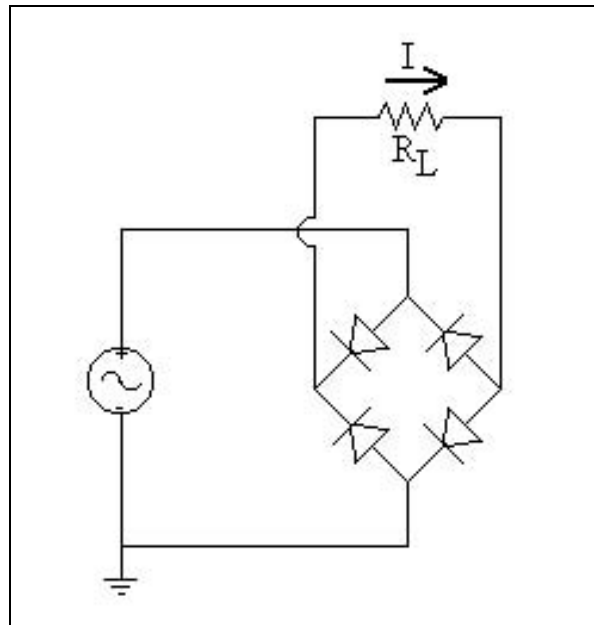

Figure 1.2: Full-Wave Rectifier
We observed that in the half-wave rectifier, we lost half of our signal. To take advantage of the entire signal we use the full-wave rectifier which is shown in Fig. 1.2.
1. Set up the circuit in Fig. 1.2, with $R_L = 10K$. Set the signal generator to 1kHz with and amplitude of approximately 5V. (Make sure the DC offset on your signal generator is zero.) Sketch the input versus the output as a function of time. Remember, the output is the voltage across the 10K resistor. You may find it easiest to measure the drop across the 10K resistor with two probes.
2. Sketch the input voltage signal and the signal across the resistor versus time for the circuit in Fig. 1.2. Take the input signal to be $V(t) = 10\sin(2\pi 100t)$, where t is in seconds.